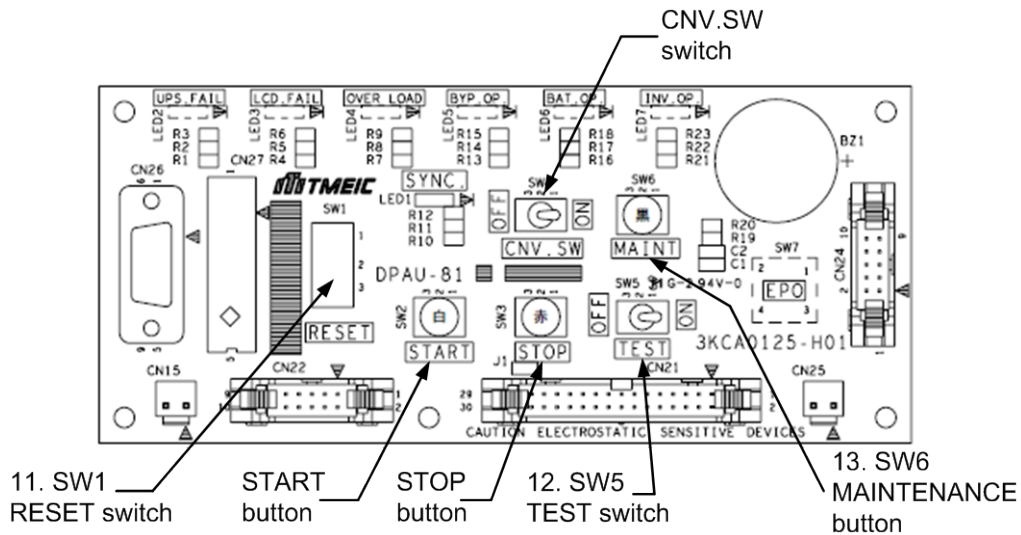

Figure 3-9 Display PCB DPAU-81
2. **Display PCB DPAU-81 (Figure 3-9):**